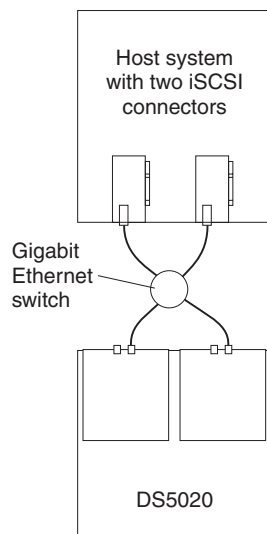

Figure 61. Example of a single-host, multiple-port configuration
- Single-host, multiple-port configuration, as shown in Figure 61
Figure 61 shows an example of a multiple port, single-host configuration. A system that uses multiple iSCSI ports can provide enhanced performance compared to a single-port iSCSI connection.